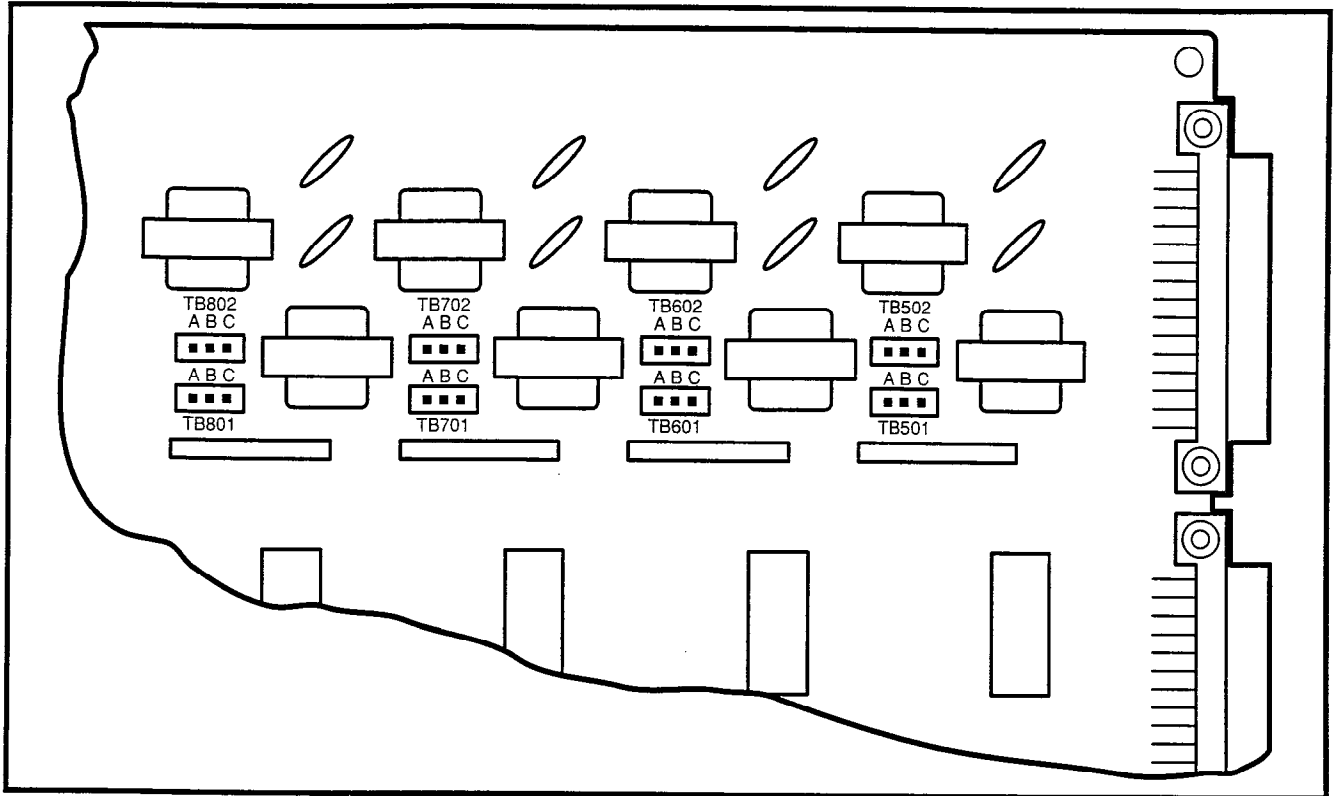

FIGURE 4-22—NMDU STRAPPING
3.91 The NMDU (Figure 4-22) must be strapped for operation with either a one-pair or two-pair modem connection. The two strapping positions for each modem are shown below.